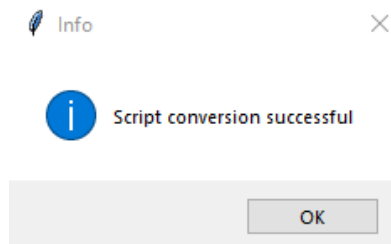

Figure 2: Pop-up appearing after a successful script conversion. The script is saved into the "Skripte" folder
4. **Press the button** [Create alignment script]. If successful, an info pop-up will appear (Figure 2)